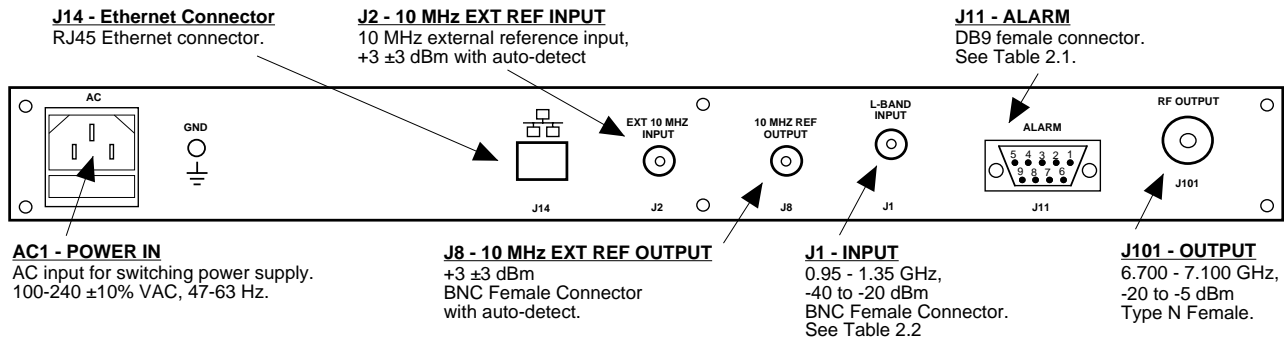

FIGURE 2.1 3115-6771 Rear Panel I/O's
Figure 2.1 shows the input and output connectors on the rear panel.
1. Connect a -40 dBm to -20 dBm signal to RF IN, J1 (Figure 2.1).